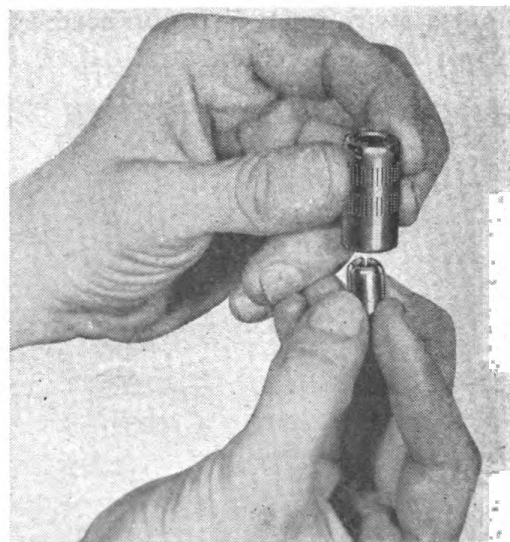

Figure 56
(3) Remove coupling jaws and nozzle tip from sleeve. Examine jaws and tip for nicks and wear, and replace if necessary.
(4) To replace the three jaws in the coupling sleeve, first place the jaws in position on the nozzle tip and drop sleeve over the jaws (See Figure 56). Then replace sleeve on coupling body and tighten.